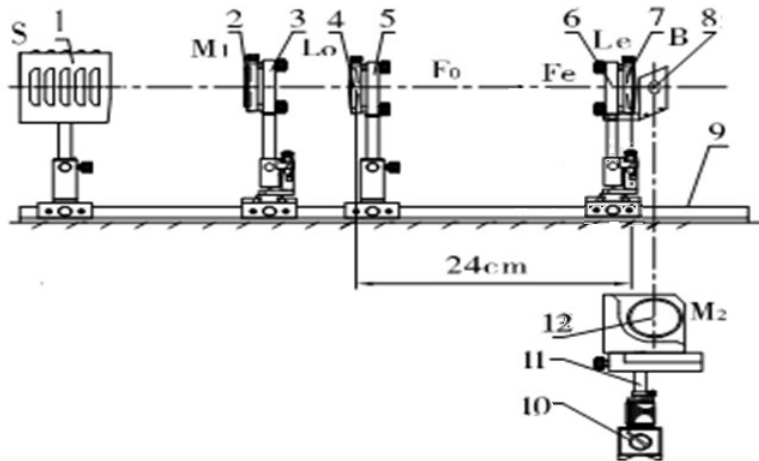

Figure 4.3-2 Schematic of experiment setup
- 1) Refer to Figures 4.3-2, align all components in same height along the rail;
- 4) Mount the beam splitter (B) behind the lens L_e on the post of lens holder 8 (the glass plate is at 45° angle with respect to the optical axis);